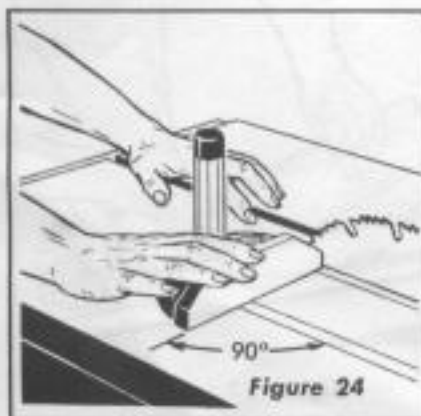

Figure 24
4. Square crosscutting is done with the miter gauge set at "0" (at a right angle to the slide and groove). (See figure 24.) The splitter need not be removed, but it is not needed for this operation.